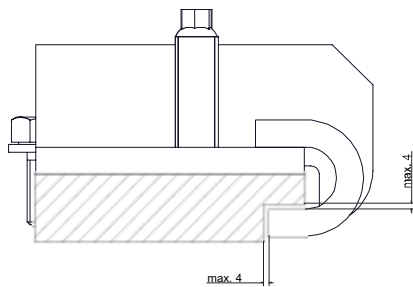
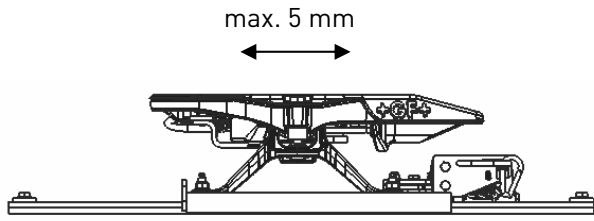

Fig. 1: Wear limits of the carriage guide (left and right)
Fig. 2: Max. permitted longitudinal play
- (1) Uncouple the trailer and secure it (wedge placed underneath)
- (2) Clean fifth wheel and slider (use only commercially available cleaning agents specified for the unit)
- (3) Visual check for damage (especially connecting and moving parts, weld seams)
- (4) Check carriage guide measurements (see Fig. 1), a feeler gauge can be used for this
- (5) Apply cleaning oil ISO 22 to parts (A) through (F) (see page 33)
- (2) Visual check for damage (especially connecting and moving parts, weld seams)
- (3) Check carriage guide measurements (see Fig. 1)
- (4) Check for ease of movement during opening and closing (see manual chapter "Operation")
- (5) Check tension springs for proper action of blocking pieces (closing)
- (6) Check safety clip with chain for damage, tightness of fit
- (7) Check tightening torque for (A) through (C), see page 33
- (8) Check sliding play in the vehicle longitudinal direction between carriage and notched strips (for description see page 34, Fig. 2 through Fig. 5)
- (9) Apply cleaning oil ISO 22 to parts (A) through (F) (see page 33)